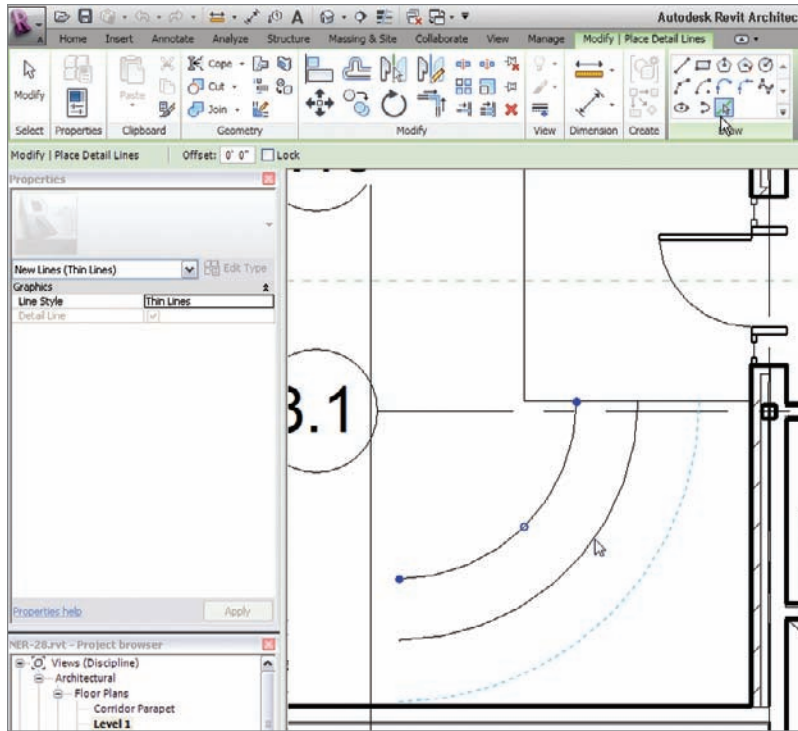

FIGURE 10.38 Adding two more arcs based on the centerline of the first
10. On the Options bar, add an increment of 2'-0" to the Offset field (see Figure 10.38).
11. Offset the center arc to the right, then to the left, forming a 4'-0" overall winder, as shown in Figure 10.38.